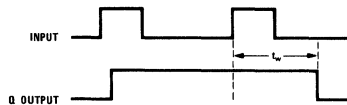

Figure 3
5. Retrigger pulse width (see Figure 3) is calculated as follows: